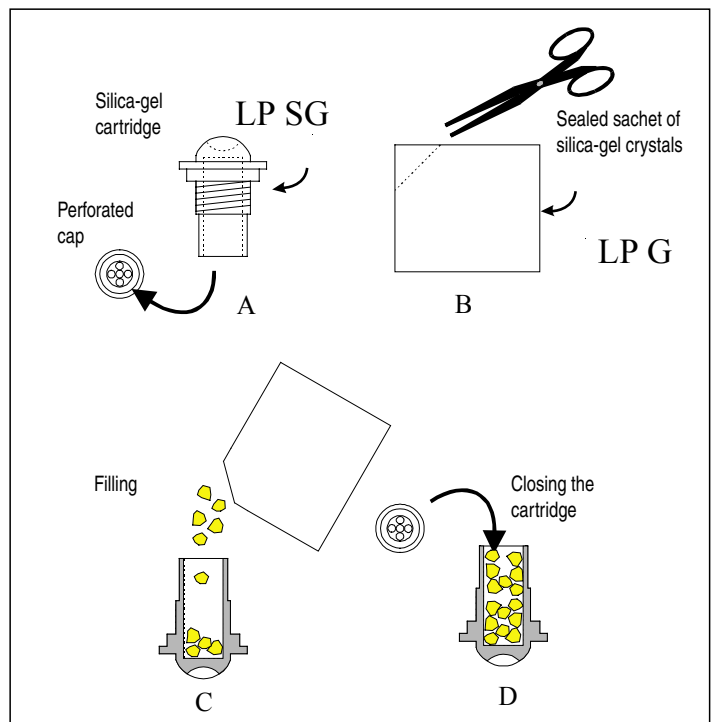

Fig. 3
- Fig.3 shows the operations needed to refill the cartridge with silica-gel crystals